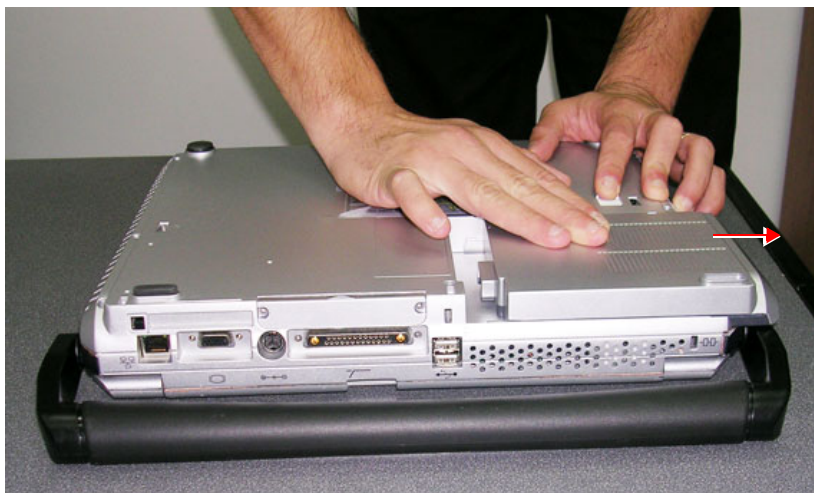

Figure 8-5 Sliding the Battery out of the Battery Compartment
- 1.) With the Vivid-i™/ Vivid-q™ lying face down (refer to Figure 8-5 on page 8-5), hold the unit steady with one hand while sliding the battery sideways into the battery compartment.